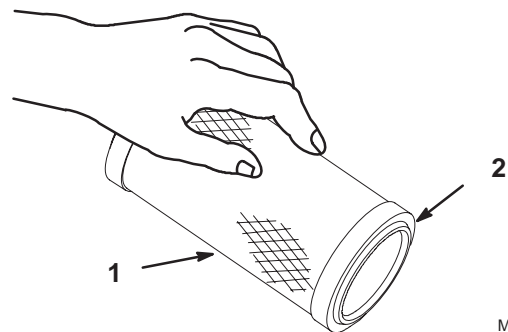

Figure 40
1. Lightly tap the element on a flat surface to remove dust and dirt (Fig. 40).